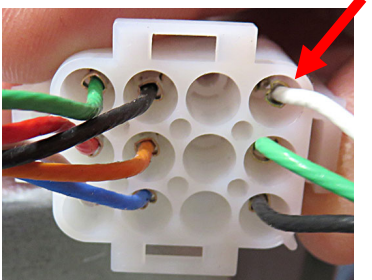

Figure 21
22. Insert the white wire into Pin 3 (see Figure 21).